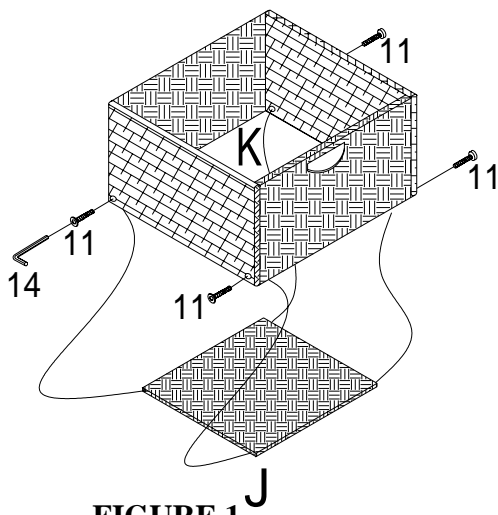

FIGURE 1
3. INSERT SHORT MACHINE SCREWS (11) THROUGH THE HOLES ON SIDE OF WICKER DRAWER FRAME (K) AND TIGHTEN INTO CORRESPONDING HOLES ON ENDS OF WICKER DRAWER BOTTOM (J) BY USING WRENCH (14). ASSEMBLE THE OTHER TWO DRAWERS IN SAME MANNER. AS FIGURE 1 SHOWN.